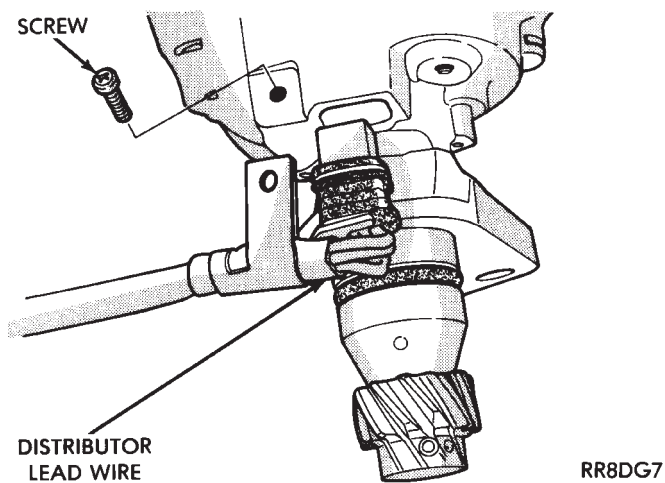

Fig. 26 Lead Wire Clamp
- (5) Remove lead wire clamp screw and remove lead wire (Fig. 26).